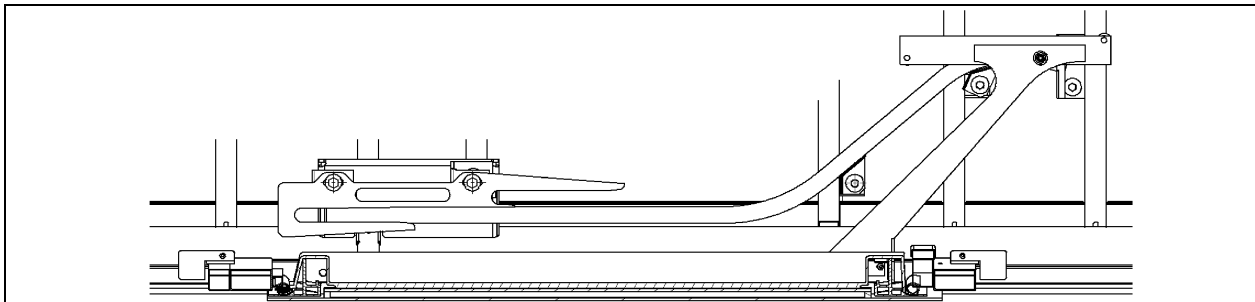

FIGURE 73: WCL UPPER ARM AND RAIL
2. Slide the top rail into the upper arm then bolt the rail to the structure. Do not fully tighten (Refer to Figure 73).